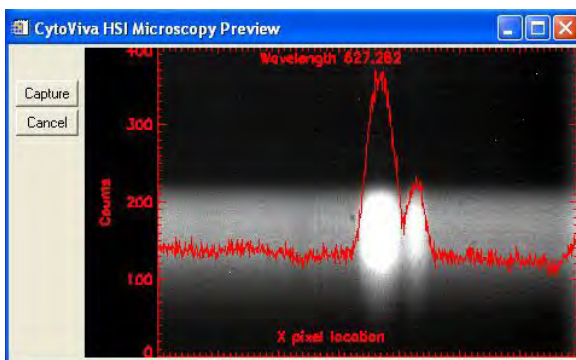
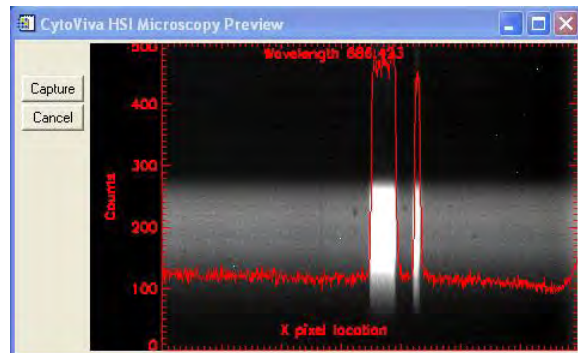

Figure 3. Frame out of focus
Figure 4. Frame in Focus
4. Show Live Preview was selected, the HSI Microscopy Preview screen appears (see Figure 3). This screen is used by first putting the cursor inside its borders. If the cursor is outside the window, some information will not be displayed. The upper panel of Preview shows a histogram containing the number of image pixels that have values between zero and the maximum value. Under the histogram, the panel displays a live spectral image that is being captured by the camera. In this image, the horizontal axis represents the X axis of the HSI image that will be recorded. The vertical axis represents the wavelengths of the spectrum captured in the HSI image. In the image below, the vertical streaks are spectra from objects that are in the view of the HSI camera. This image shows that two bright objects are in the view. Overlaid onto the spectral image is an intensity plot. Placing the cursor at any place on the image corresponding to a spectral wavelength causes the intensities of all the points across the image, at that wavelength, to be plotted.
5. Focus: Typically if the objects are in focus in the eyepiece of the microscope then they are in focus to the HSI camera. Often the thickness of the specimen makes it difficult to properly adjust for best focus. This can be done more easily with the Preview image. If focus is poor, the spectra will appear blurred (see Figure 3). When focused correctly, the spectra become sharp (see Figure 4). Focusing with the Preview window insures that the HSI image will be sharp.